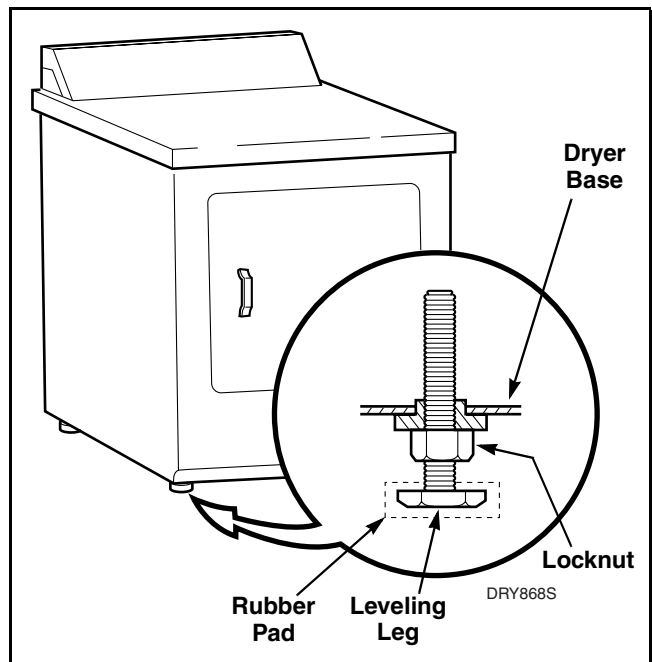

Figure 41
- Thread locknuts, *Figure 41*, down to heads of leveling legs, then thread legs into dryer base until heads extend out of base approximately 3/4 inch (19.05 mm).
- Tighten locknuts, *Figure 41*, securely against dryer base and place rubber pads on each leg.